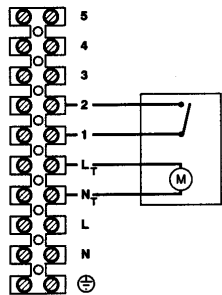

Fig. 32
8.8 Connecting an External Timer (Figs 32 & 33)